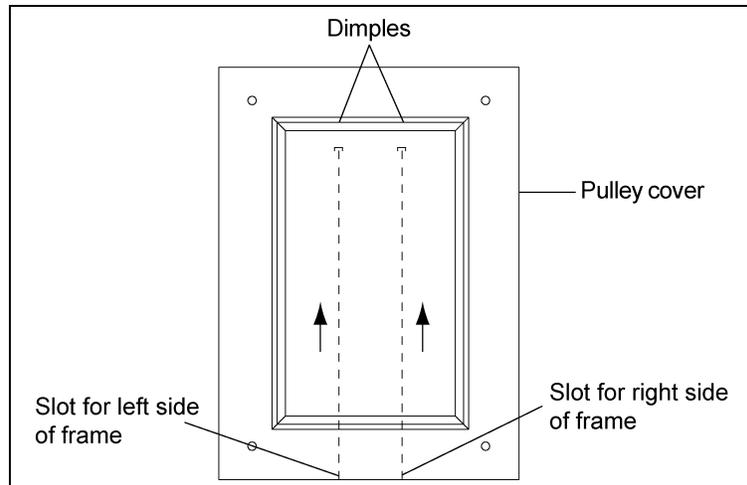

Figure 5A
**Step 2:** Using a saw, cut a slot from the bottom of the pulley cover lip to the dimple on the cover's face. When slotting the right pulley cover, use the right dimple for placement. When slotting the left pulley cover, use the left dimple for placement. (See Figure 5A for slot placement.)